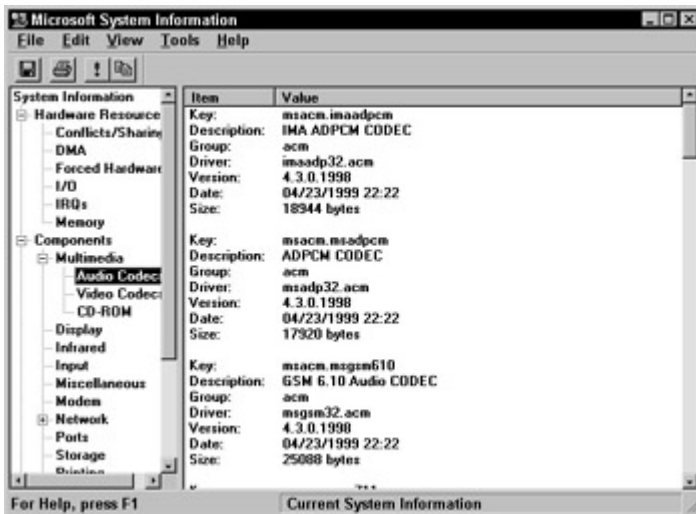

Figure 18-1: The Windows System Information window can be used to display the hardware configuration of a PC.
- i **Resource conflicts:** Use the Windows System Information window (shown in Figure 18-1), from the Accessories and Systems Tools menus, to determine if there are any resource conflicts (IRQ, DMA, or I/O address) between the sound card and other devices. If a conflict exists, reassign the conflicting device or the sound card. The most common conflict is an IRQ.